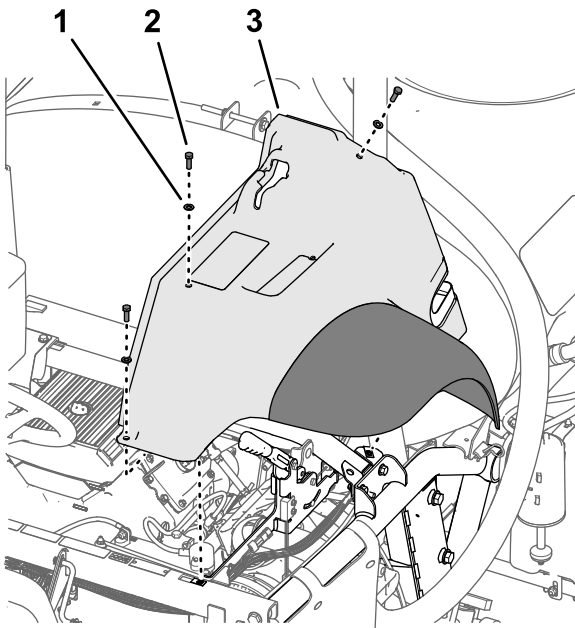

Figure 9
2. Remove the 3 bolts (5/16 x 1 inch) and 3 washers (5/16 inch) that secure the fender to the frame of the machine (Figure 9).